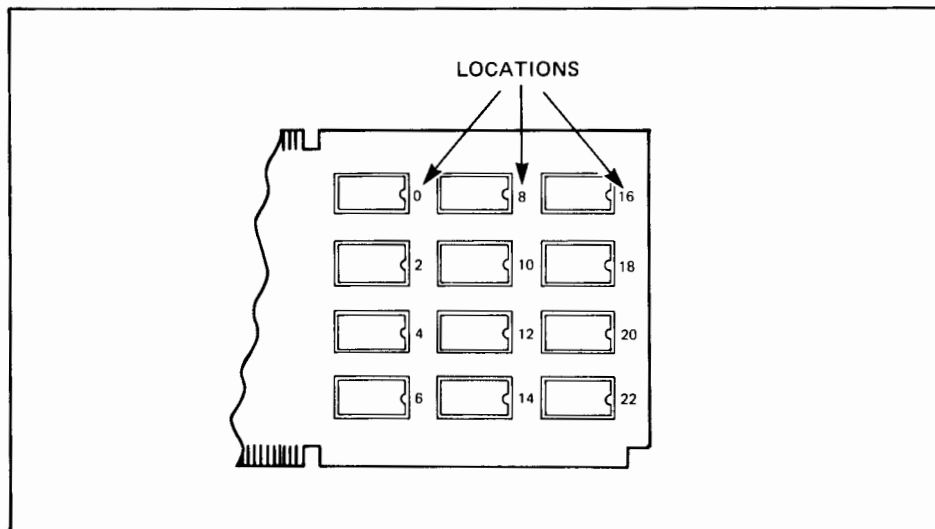

Figure 2-37. I-O ROM Locations for 2641A, 2645, and 2648A Terminals
5. Insert the ROMs in the appropriate locations on the Control Memory PCA(s) (see figure 2-37 for the location of each ROM).